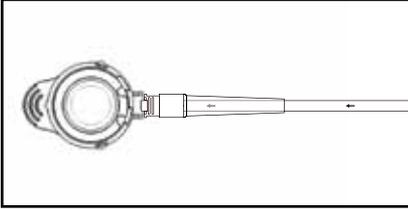

Figure 3. Strain Relief locked into the Access Port's port housing
- The Strain Relief is then locked into the Access Port's port housing (Figure 3).